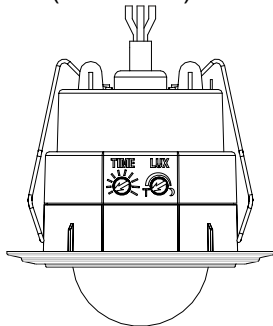

FIGURE 7
(1) TEST MODE
- Turn the Lux control and the Time control counter-clockwise to the edge - the TEST position. (FIGURE 7)